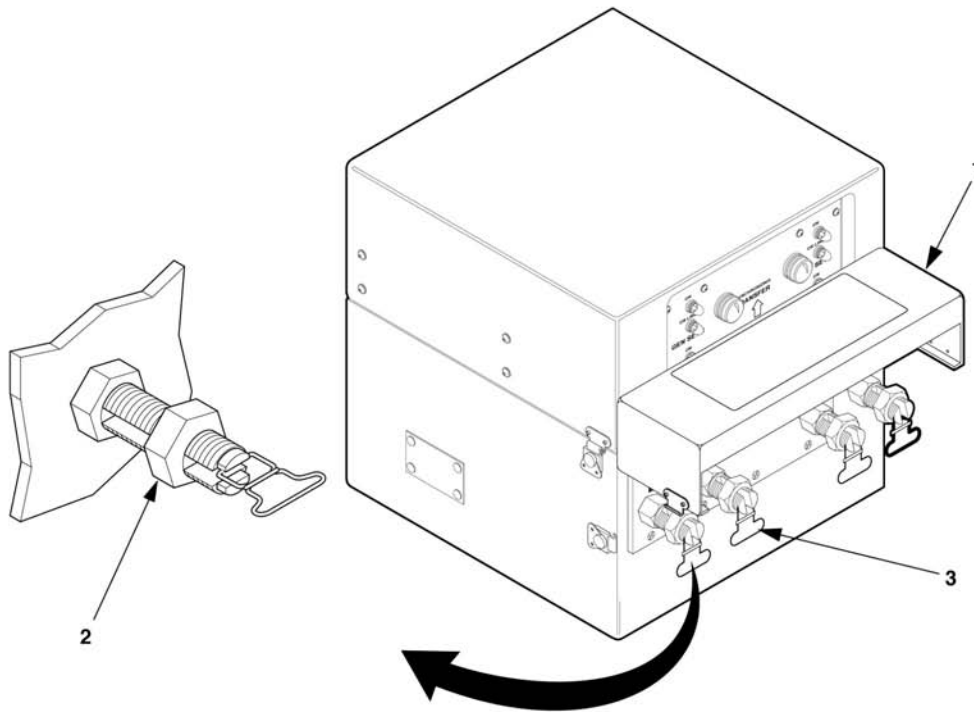

Figure 2-7. Switch Box Load Cable Connections.
- a. Open load terminal cover (1, Figure 2-7).